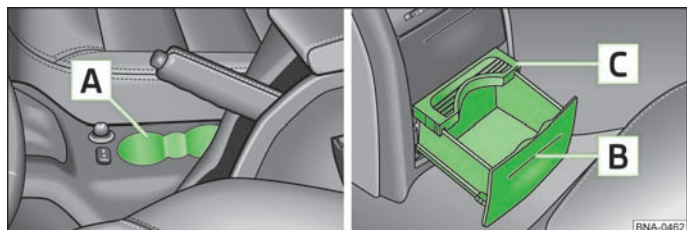

Fig. 63 Cup holder
Two beverage containers can be placed into the recesses **A** » Fig. 63.
- › Press on the panel in the area **B** » Fig. 63 - the cup holder comes out.